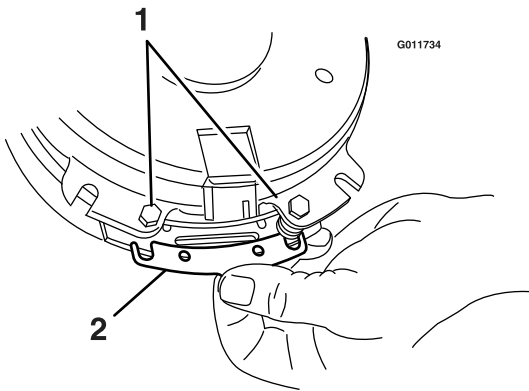

Figure 67
- A. Loosen both brake mounting bolts one-half to one full turn (see Figure 67).